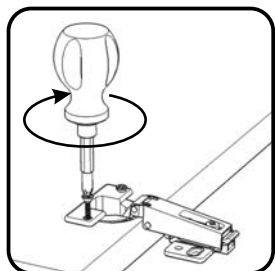

Figure 8
Attach Hinges to Doors (I) with Wood Screws for Hinge into pre-drilled holes, then tighten. (See Figure 8)